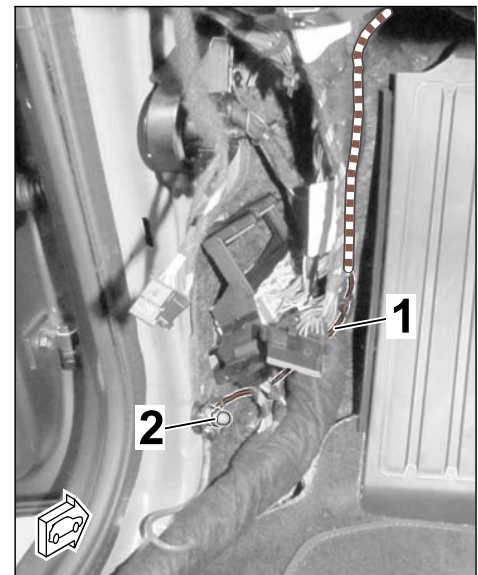

Figure 35
2.7 Route line BN; 1.0² with cable shoe (ground) to the ground pin MB 21 (left-hand drive)/MB 22 (right-hand drive) and fit it (⇒ *Figure 35*).